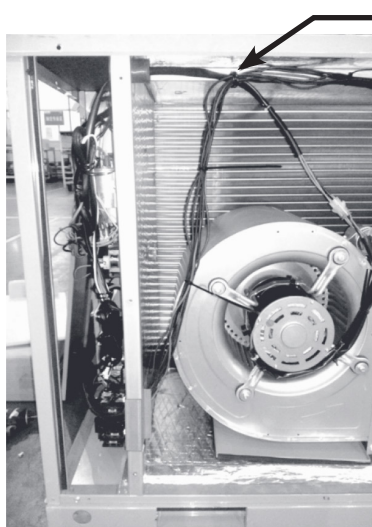

Figure 3.10
- Tighten wires with clips in the bar, and bundle loose wires with fastening belt. (See Figures 3.10 & 3.11.)